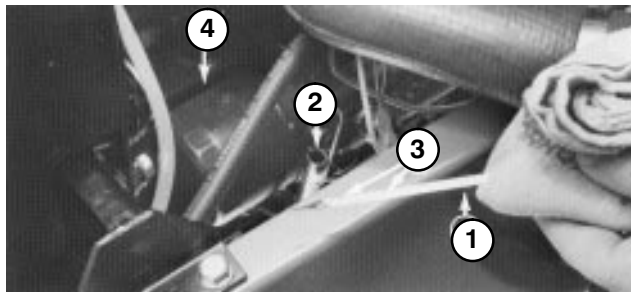

Figure 20
4. Remove dipstick and wipe it with a clean rag (Fig. 20). Push dipstick down into the tube and ensure it is fully seated. Pull dipstick out of the tube and check level of oil. If oil level is low, remove filler cap (Fig. 21) and add enough oil to raise level to top notch on dipstick (Fig. 20). **DO NOT OVERFILL.**